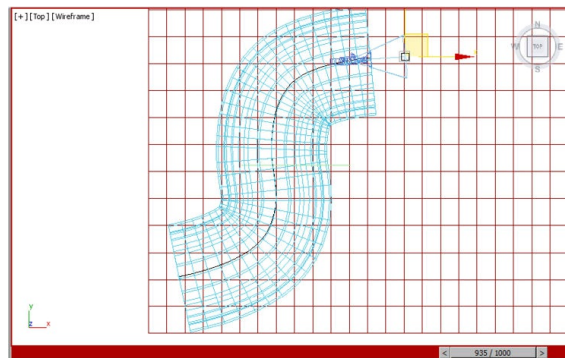

Figure 14-37 The position of the Camera001.Target at frame 935
19. Move the time slider to frame 935 and align *Camera001.Target*, as shown in Figure 14-37.